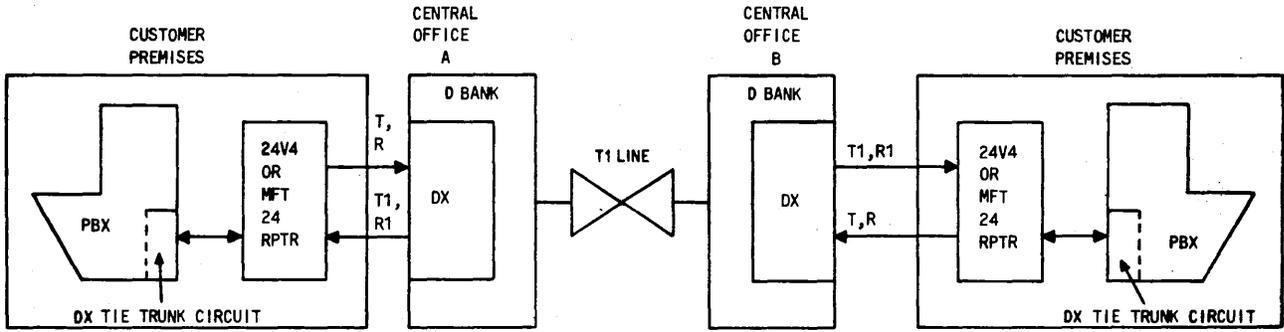

Fig. 3—Typical 4DX Tie Line Application
The 4DX unit provides a direct interface between the D4 bank and 4-wire metallic extensions using duplex (DX) signaling. The primary application for the unit is on PBX tie trunk circuits, but it can be used for other applications provided the opposite end of the VF extension is terminated with a compatible DX converter. The DX unit includes gain, equalization, and signaling circuits required to operate with relatively long 4-wire extensions of loaded or nonloaded cable with 1-kHz losses up to 15 dB. Figure 3 shows a typical 4-wire DX tie-line application.